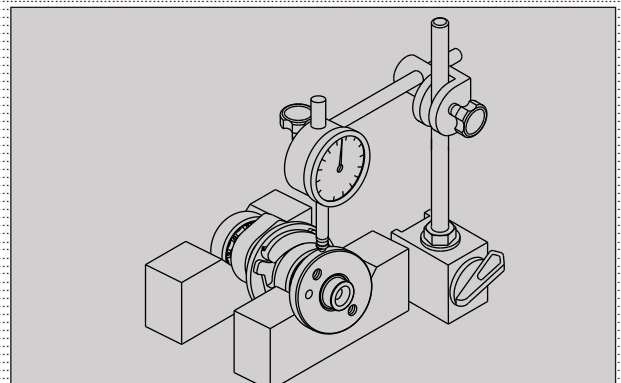

Fig. 3.140
- Measure runout with a dial gauge. Replace the camshaft with a new one if measured runout exceeds the limit. (Fig. 3.140)